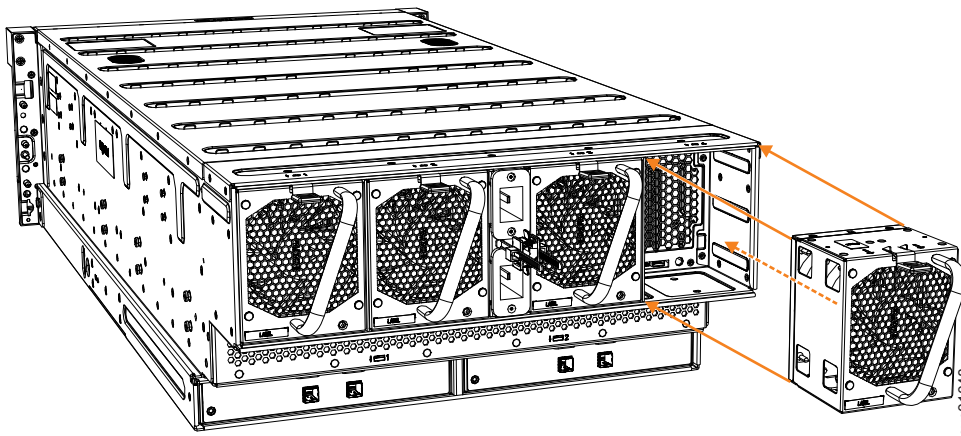

Figure 82. Replace fan module
2. Carefully insert the fan module into the chassis until it clicks in place, as shown in Figure 82.